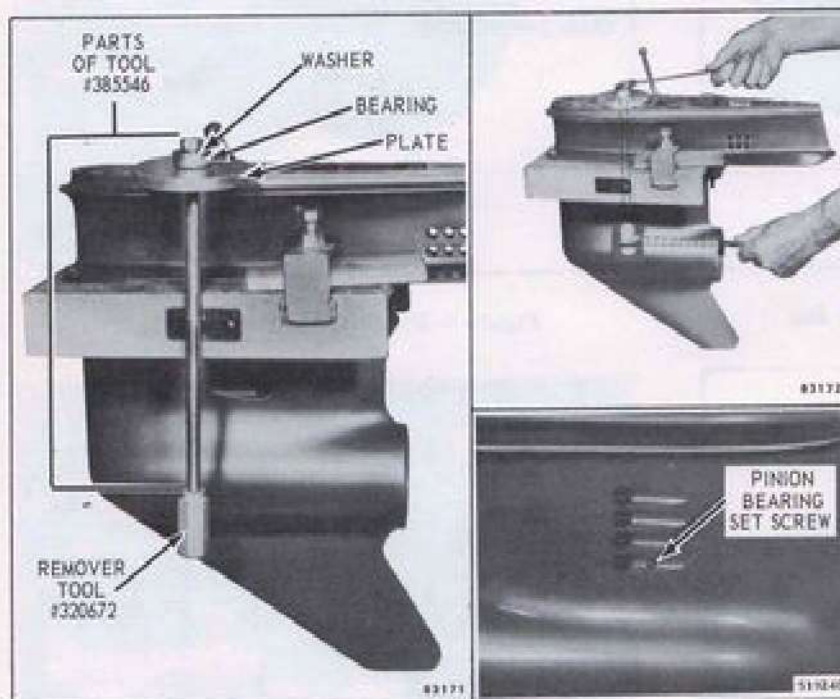

Figure 6-25. Removing Driveshaft Lower Bearing
k. If necessary, remove lower driveshaft bearing. Using parts from Bearing Remover-Installer (Special Tool #385546, and remover Special Tool #320672). See Figure 6-25.
Remove bearing setscrew from gearcase before attempting lower driveshaft bearing removal. See Figure 6-25 insert.
Place washer, bearing, plate, and guide sleeve on bolt as shown in Figure 6-25. Insert in gearcase. Screw remover #320672 onto screw thru gearcase cavity. Shoulder on tool must face lower bearing. Tighten screw with wrench to remove bearing.
f. **PINION BEARING.** If removed, install pinion bearing using parts of installer (Special Tool #385546) and installer (Special Tool #320673). Assemble plate and washer to installer using a 1/2"-13 screw. Place bearing on tool, lettered side against tool. Press bearing into gearcase. See Figure 6-44. Apply OMC Screw Lock to threads and install set screw in gearcase. See Figure 6-25 insert.